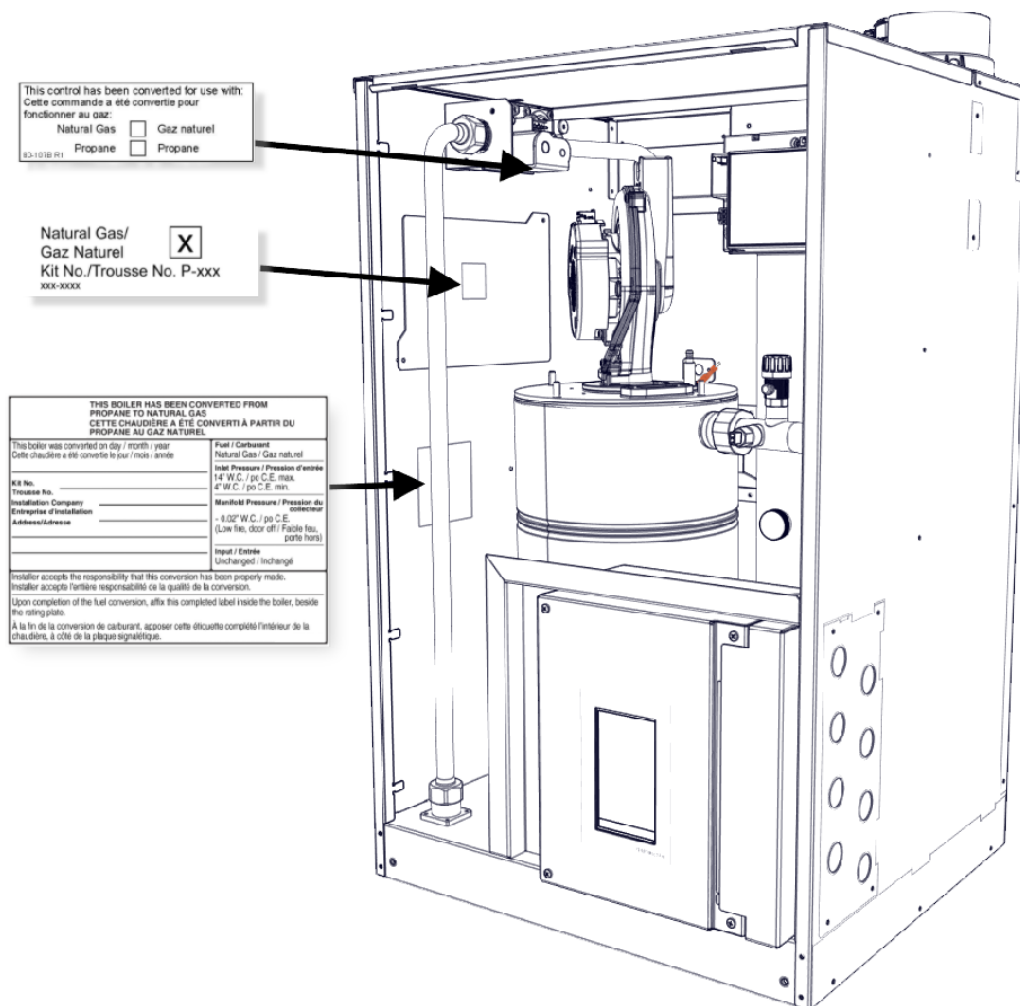

Figure 3 Conversion Label Placement
2. Place the conversion labels onto the boiler at the positions indicated in Figure 3.